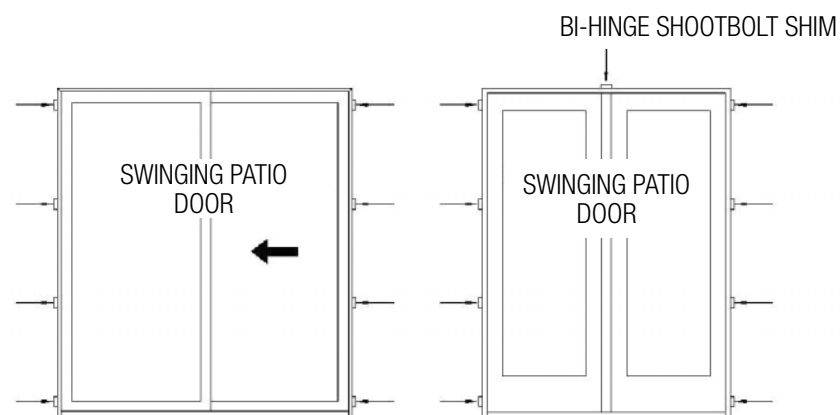

FIG. 13
- Start with a shim at each corner no more than 1" from the jamb corner. Add additional shims spaced evenly from the center of the unit. Make sure shims are spaced no more than 16" apart. Note to use flat shims or pairs of triangle shims to ensure the jamb does not twist. (Fig. 13)
- Additional shims are required at each lock point, head shootbolt and hinge location for all operating doors. (Fig. 13)